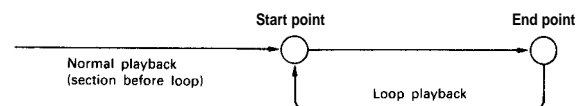
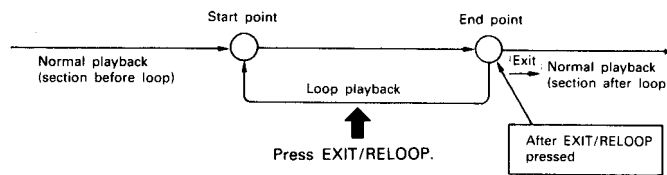

Figure 20
Figure 22
- The operation shown in Figure 20 can be combined with the Re-loop function to play a certain section of a track repeatedly as many times as desired stretching out the song. (Figure 22)
② Re-loop